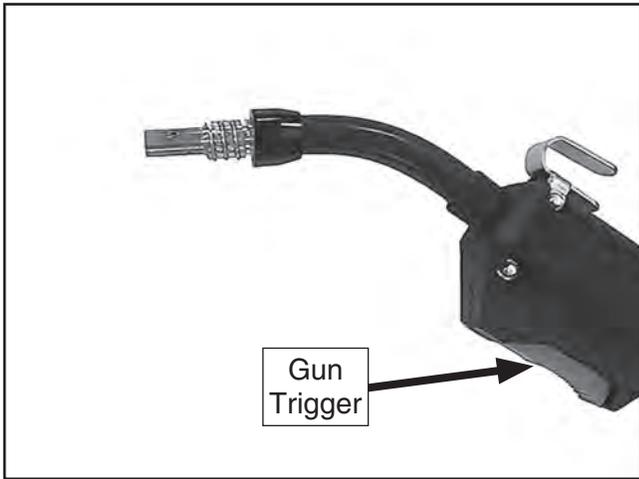

Figure 15. Nozzle and contact tip removed from welding gun.
9. Remove gun nozzle, and unscrew contact tip (see **Figure 15**).